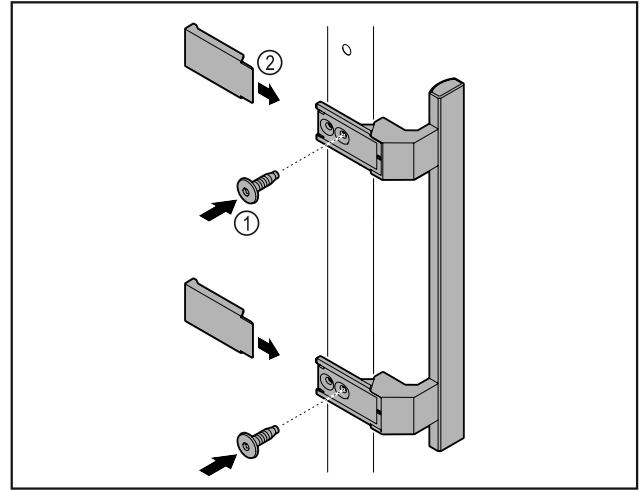

Fig. 64
- ▶ Attach handle from accessory kit to the door using the screws Fig. 64 (1) supplied.
- ▶ Put on cover Fig. 64 (2).